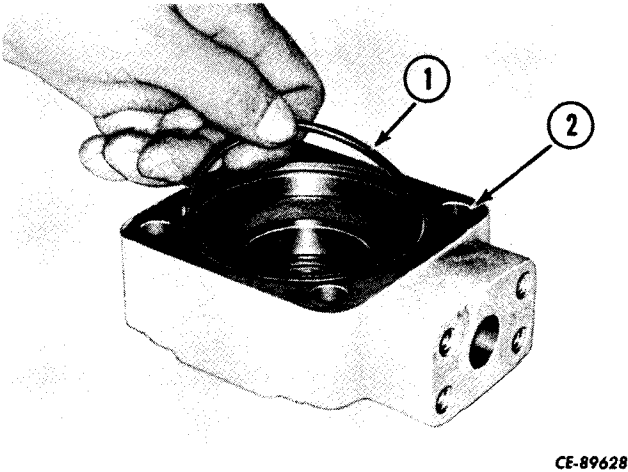

Figure 11-6
Remove the "O"-ring (1, Fig. 11-6) from the cover (2).